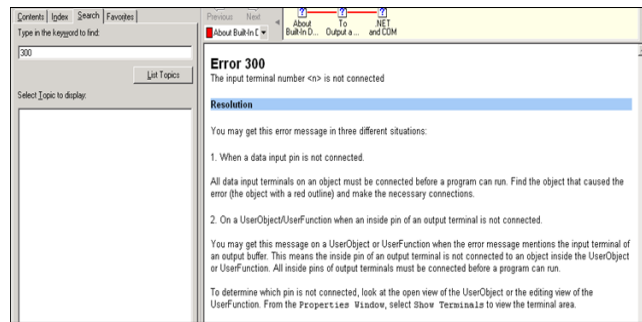

Figure 1-12 An Error Code example
- 3 or: select Menu bar => Help => Contents and Index to open VEE online help, under Search tab, type "Error Codes" into the upper-left search box, and click List Topics button. Then double-click on the words "Error Codes" on the list that displays. A list of most error codes will appear on the right side along with a brief explanation of each displayed error code. Double-click on the error code for a more detailed explanation. See Figure 1-12.